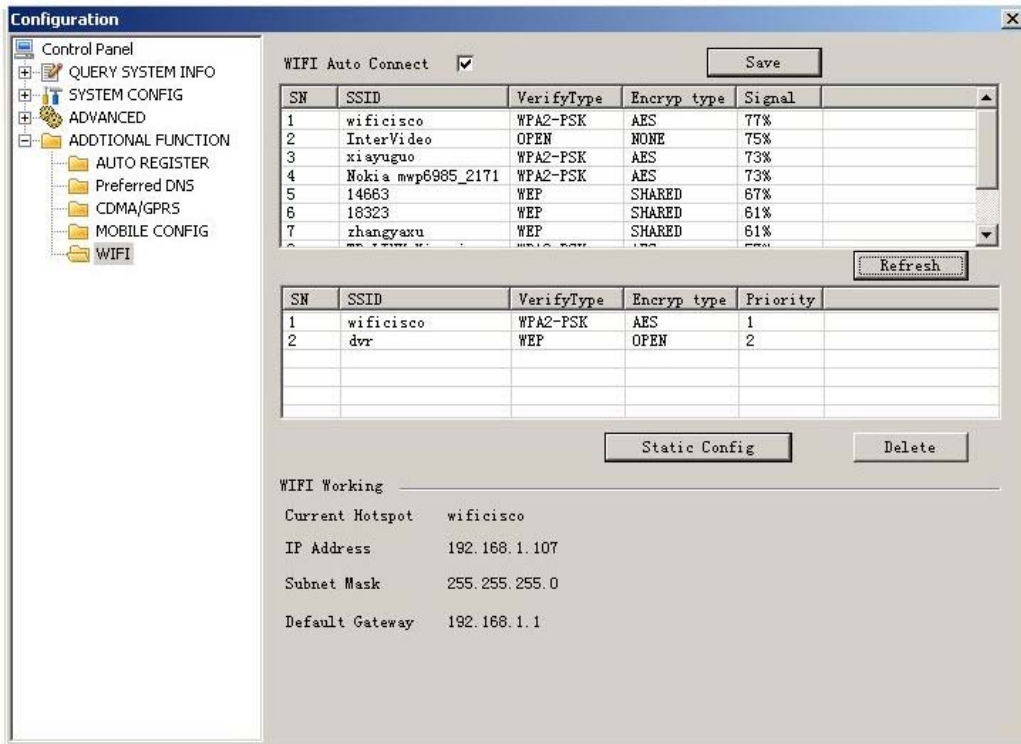

Figure 7-59
- WIFI working information: After system successfully connected to WIFI, you can view hotspot name, IP address, subnet mask, default gateway and etc. See Figure 7-59.